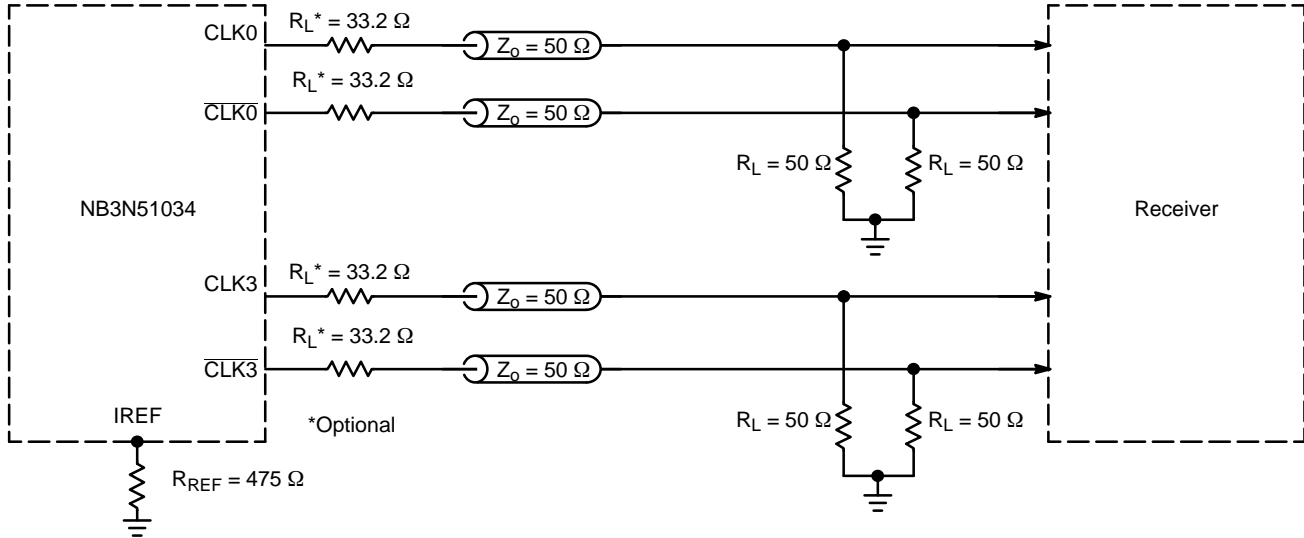
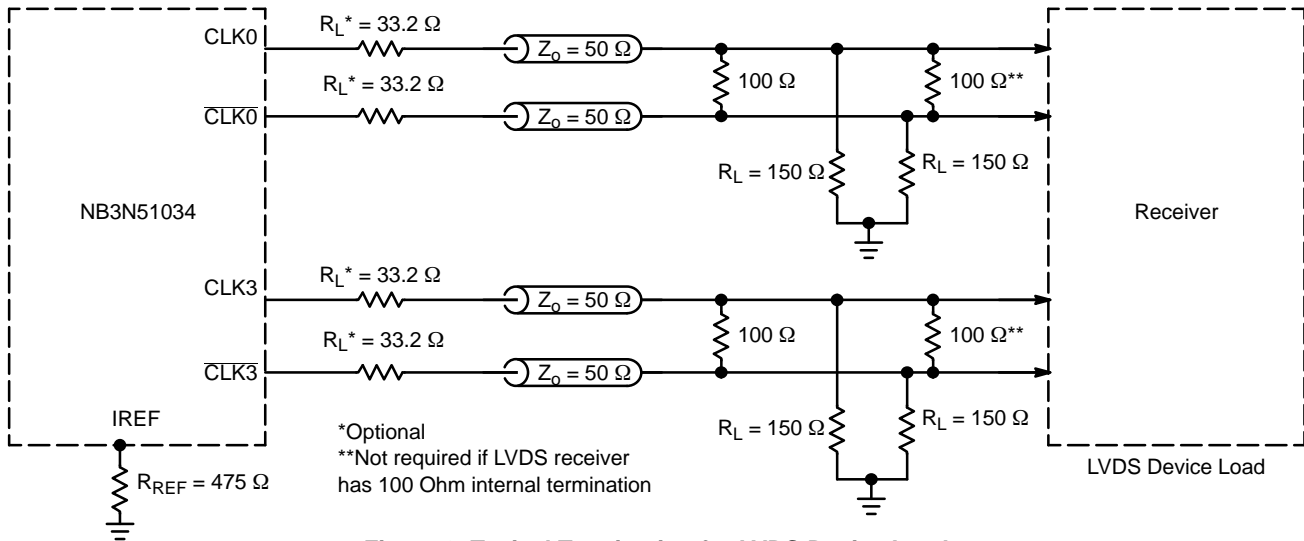

Figure 7. Typical Termination for HCSL Output Driver and Device Evaluation
Figure 8. Typical Termination for LVDS Device Load
- VDDXD and VDDODA power pins must be shorted to power supply voltage V_{DD} and GNDXD and GNDODA ground pins must be shorted to power supply ground GND. Measurement taken with outputs terminated with R_S = 33.2 Ω, R_L = 50 Ω, with test load capacitance of 2 pF and current biasing resistor set at 475 Ω. See Figure 7. Guaranteed by characterization.
12. V_{DDXD} and V_{DDODA} power pins must be shorted to power supply voltage V_{DD} and $GNDXD$ and $GNDODA$ ground pins must be shorted to power supply ground GND . Measurement taken from differential output on single-ended channel terminated with $R_S = 33.2\ \Omega$, $R_L = 50\ \Omega$, with test load capacitance of 2 pF and current biasing resistor set at 475 Ω . See Figure 7. Guaranteed by characterization.
19. VDDXD and VDDODA power pins must be shorted to power supply voltage V_{DD} and GNDXD and GNDODA ground pins must be shorted to power supply ground GND. Measurement taken from differential output on single-ended channel terminated with $R_S = 33.2\ \Omega$, $R_L = 50\ \Omega$, with test load capacitance of 2 pF and current biasing resistor set at 475 Ω . See Figure 7. This parameter is guaranteed by characterization. Not tested in production.
The outputs can be terminated to drive HCSL receiver (see Figure 7) or LVDS receiver (see Figure 8). HCSL output interface requires 49.9 Ω termination resistors to GND for generating the output levels. LVDS output interface may not